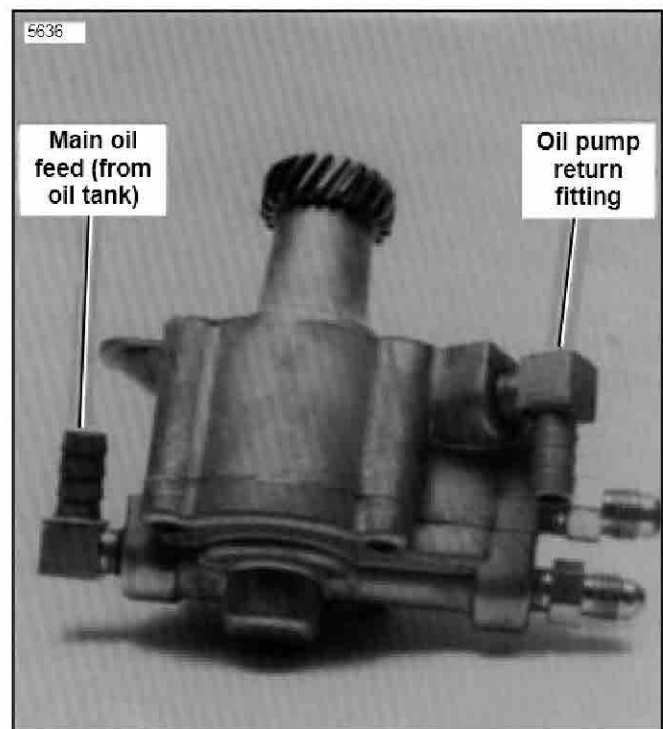

Figure 8. Oil Pump - 1986 to 1990 XLH Models
3. See Figures 8 and 10. Disconnect oil return line at the oil pump. The return line is located on the angled fitting at the front of the oil pump and is secured with a hose clamp. Use a pan to catch any oil that may spill.